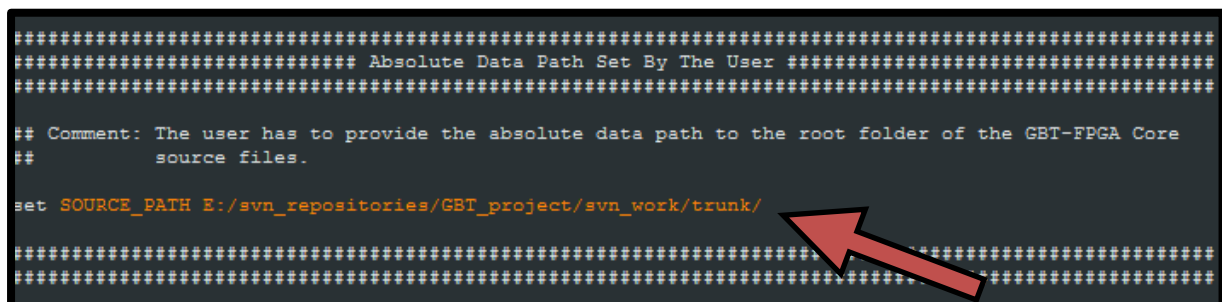

Figure 17: Modifying the absolute data path of the TCL script file
3. Add the absolute path of the root folder of the GBT-FPGA project on your computer to the variable (see Figure 17).